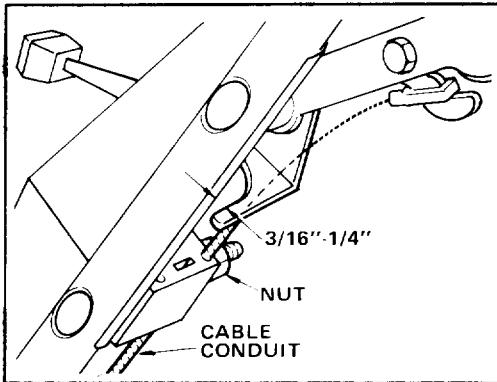

Figure 20
(Fig. 20)—Move control bar toward handle until slack in wire is removed. Gap between brake lever and handle must be $3/16" - 1/4"$. See step 3 for adjustment.
3. ADJUST CABLE CONDUIT—Loosen nut on cable bracket (Fig. 20). Insert $3/16" - 1/4"$ object between brake lever and handle. Pull down on cable conduit until slack is removed. Then tighten nut.